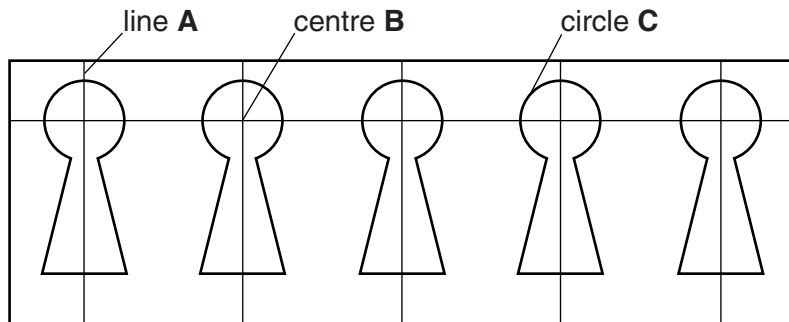

Fig. 17
- (a) (i) Fig. 17 shows the keyhole shapes marked out on aluminium sheet.